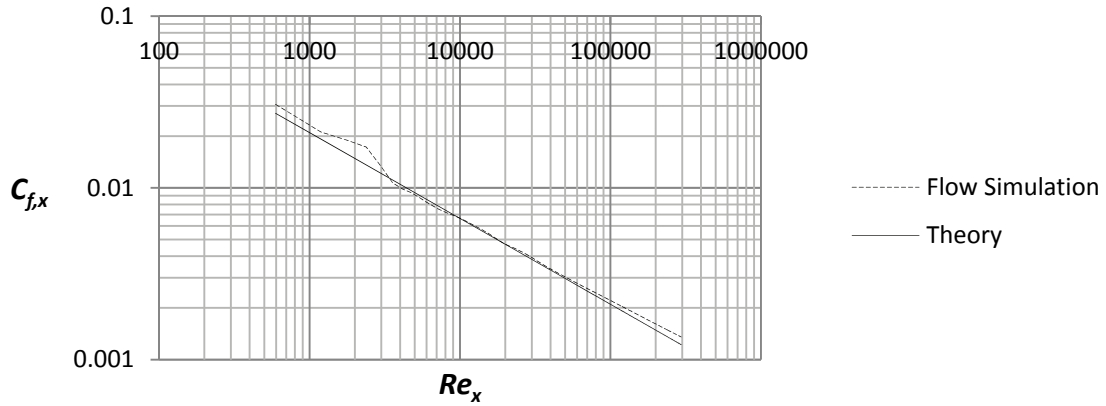

Figure 2.26 Local friction coefficient as a function of the Reynolds number
Place the file “xy-plot figure 2.26” into the **Local Disk (C:)/Program Files /SolidWorks Corp/SolidWorks Flow Simulation/lang/english/template/XY-Plots** folder to make it available in the **Template** list. Repeat step 24 but this time choose the sketch **x = 0 – 0.9 m**, uncheck the box for **Velocity (X)** and check the box for **Shear Stress**. Rename the xy-plot to **Local Friction Coefficient**. An Excel file will open with a graph of the local friction coefficient versus the Reynolds number compared with theoretical values for laminar boundary layer flow.
- 2.4 Import the file “Leading Edge of Flat Plate”. Study the air flow around the leading edge at 5 m/s free stream velocity and determine the laminar velocity boundary layer at different locations on the upper side of the leading edge and compare with the Blasius solution. Also, compare the local friction coefficient with figure 2.26. Use different values of the initial mesh to see how it affects the results.